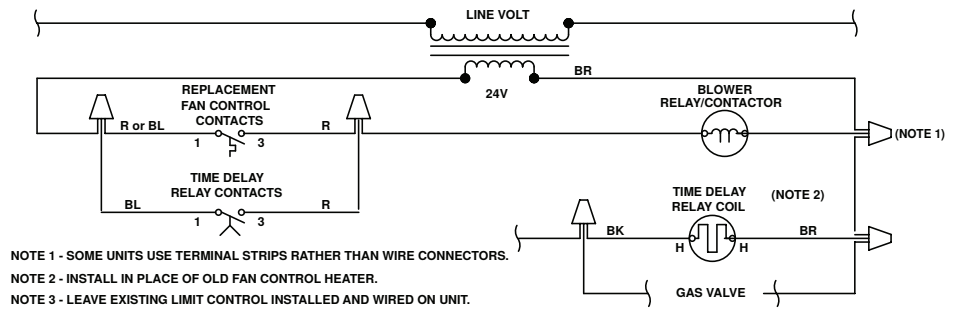

Figure 31. Fan Control Wiring Diagram
8. Connect time delay relay wires in accordance with wiring diagram shown in Figure 31.